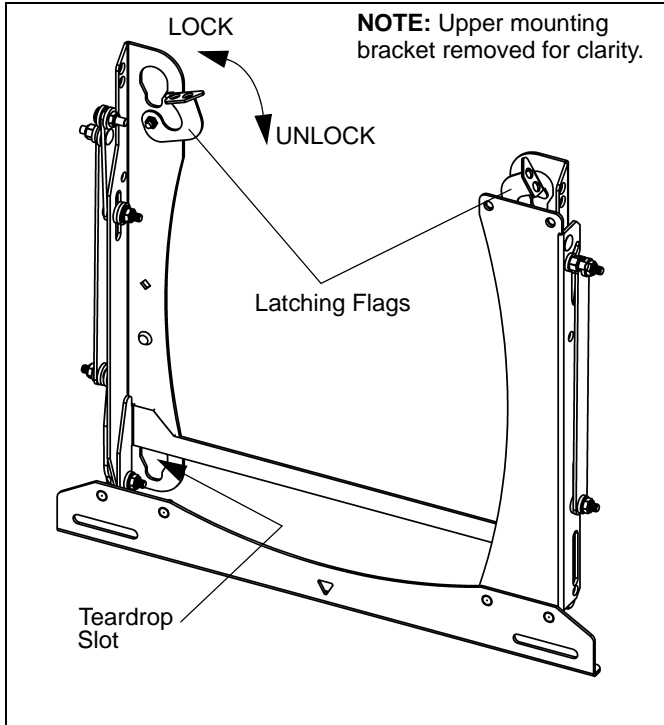

Figure 3
2. Raise the latching flag to LOCK position to secure the display. (See Figure 3) If the flag does not fully engage, check to ensure the mounting buttons are fully seated in the slots.
2. Lower the latching flag to unlock the display. (See Figure 3)